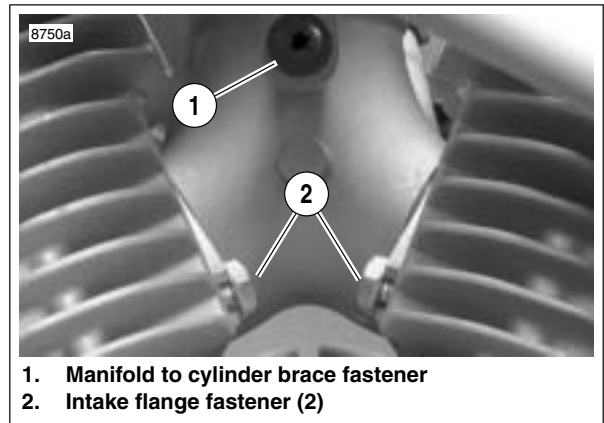

Figure 4-106. Intake Manifold (Primary Side)
- a. See Figure 4-106. On primary side, loosen but do not remove the two front and rear intake flange fasteners (2).
- a. See Figure 4-106. Slide the assembly toward installed position. Manifold should slide over fasteners (2) on primary cover side of engine.
4. See Figure 4-106. Install fastener holding manifold to cylinder brace and tighten to 90-120 in-lbs (10-13.6 Nm).